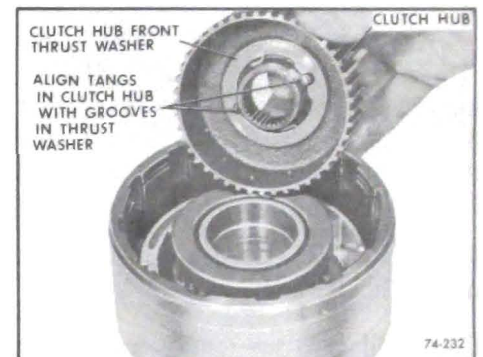

Figure 74-232
8. Install clutch hub front thrust washer to clutch hub (retain with petroleum jelly) aligning tangs in clutch hub with grooves in thrust washer. Install clutch hub. See Figure 74-232.